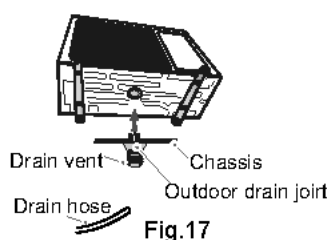

Fig.17
- (1) Connect the outdoor drain joint into the hole on the chassis.
- (2) Connect the drain hose into the drain vent. (As show in Fig.17)